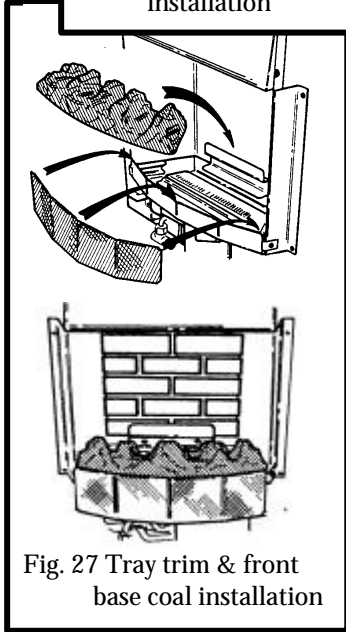

Fig. 27 Tray trim & front base coal installation
10.2 Fit the tray trim over the front edge of the burner tray. Make sure that it is pushed down fully. Place the front base coal in the burner compartment so that it rests on the ledges at the sides and front. Pull the coal forward so that it is immediately behind the front rim of the burner compartment. (See figure 27).